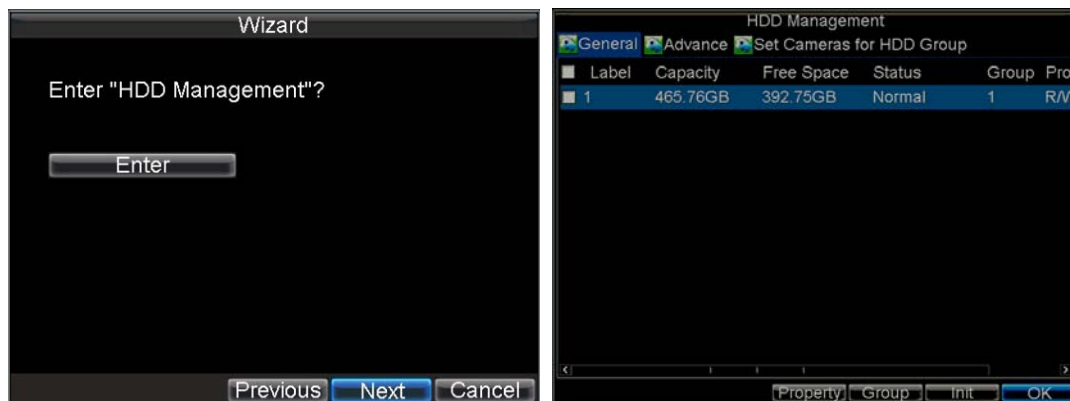

Figure 5. HDD Management
5. Click *Next* button to enter the HDD Management dialog box, shown in Figure 5.